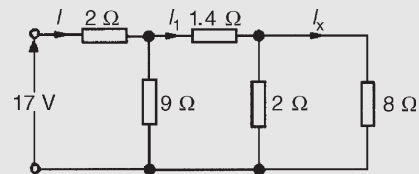
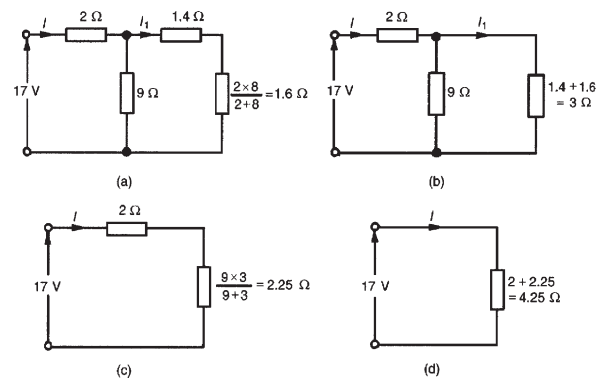

Figure 5.27
Figure 5.28
**Problem 14.** For the arrangement shown in Fig. 5.27, find the current  $I_x$
Commencing at the right-hand side of the arrangement shown in Fig. 5.27, the circuit is gradually reduced in stages as shown in Fig. 5.28(a)–(d).
From Fig. 5.28(d),
From Fig. 5.28(b),
From Fig. 5.27